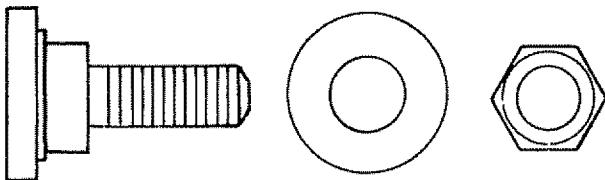

FIGURE 9
- Locate u-bolt in parts bag. Place two 1/4 hex nuts and two washers (shown full size below) on u-bolt (Fig. 9 - inset).
- Insert u-bolt through slot in drawbar as shown in Fig. 9.
- Place the rear mounting bracket (Fig. 9) on u-bolt and secure with two washers and two 1/4 locknuts (shown full size below). Tighten finger tight. Rear mounting bracket and hardware furnished with grass catcher
- Secure the rear mounting bracket to the drawbar (Fig. 9) using: one shoulder bolt, one washer and one 3/8 locknut (shown full size below). Tighten securely. NOTE: Tighten hardware assembled in step 3. Hardware furnished with grass catcher.